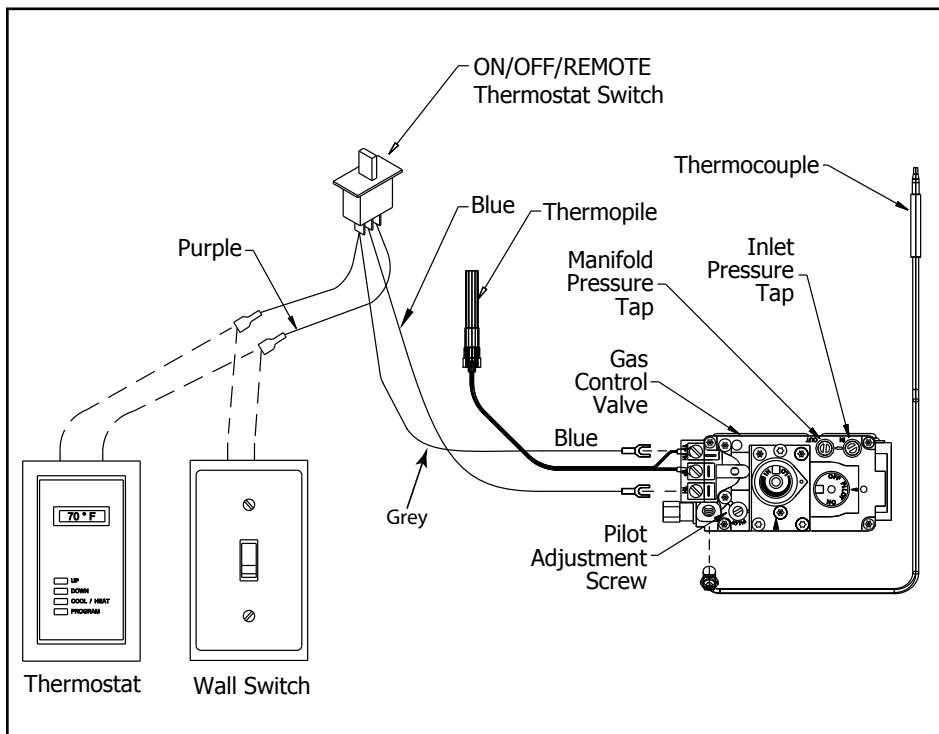

Figure 43: Accessory Wiring
The C44 comes from the manufacture with an on/off switch mounted to the control panel. Access is limited to switch once the unit is hot. **A wall mounted burner switch or thermostat must be used for safety.** See Figure 43 for wiring the switch or thermostat into the unit. Disconnect the connection behind the switch in the control panel as tap into the (2) terminals as shown in Figure 43.